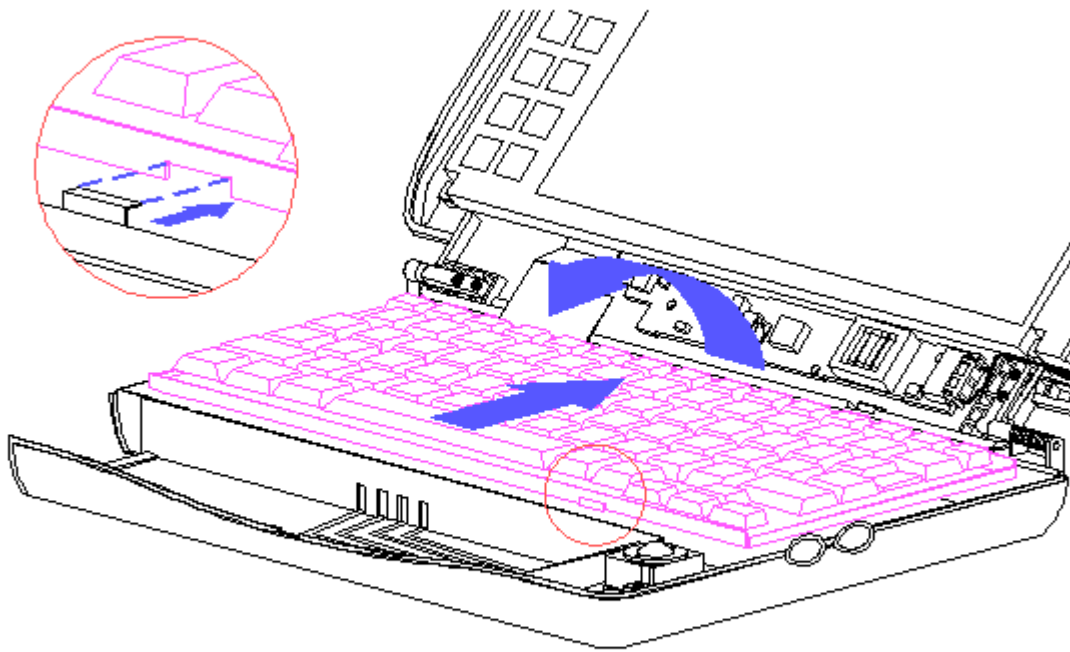

Figure 3-9. Removing the Keyboard
4. Gently lift up on the rear of the keyboard and unhook it from the hook latches in the front (Figure 3-9).